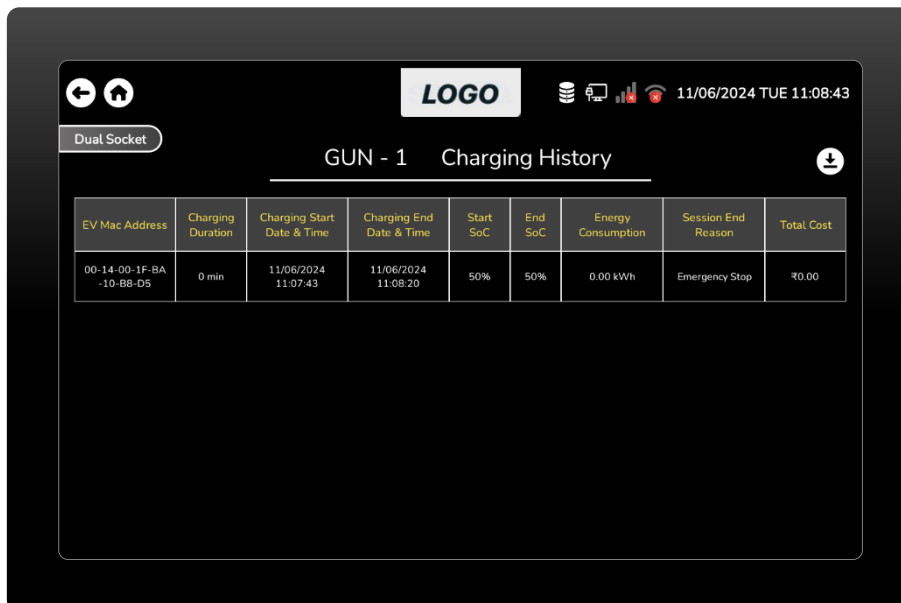

Figure 81 GUN-1 Charging Summary Screen.
- The user can get the charge history in CSV format by clicking the download button. (Figure 81)